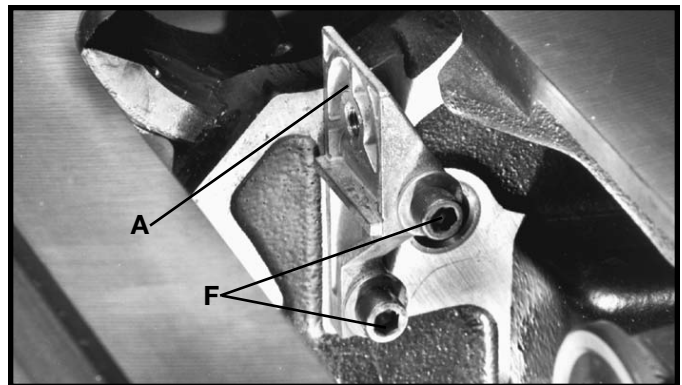

Fig. 14
4. If an adjustment is necessary, loosen two screws (F) Fig. 14, and adjust splitter bracket (A) until it is aligned with the inside blade flange (B) Fig. 12. Tighten two screws (F). Loosely assemble screw and fastener plate (C), which were removed in STEP 3.